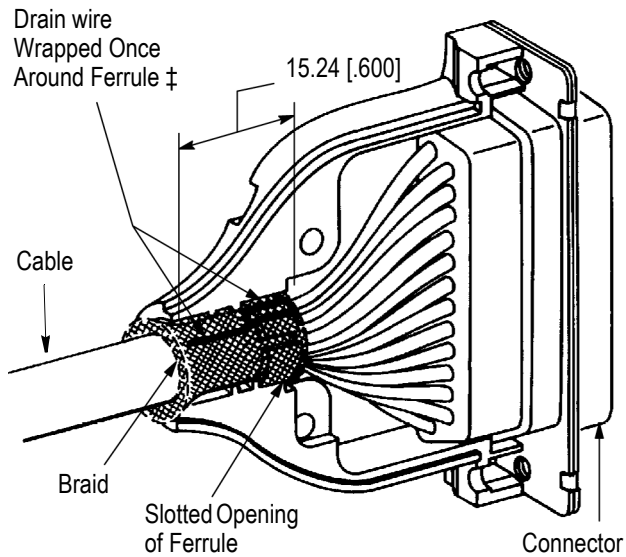

Figure 6
5. SPLIT RING FERRULE ASSEMBLY (Figure 6)